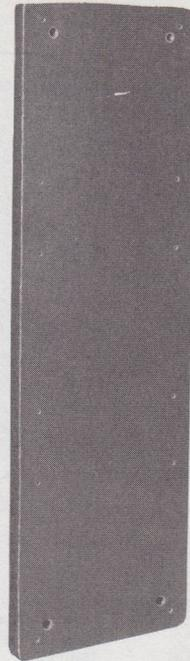

Fig. 20—KS-5796, List 9 Backboard
3.03 The KS-5796, List 9 backboard (Fig. 20) is a backboard with a light olive gray finish.